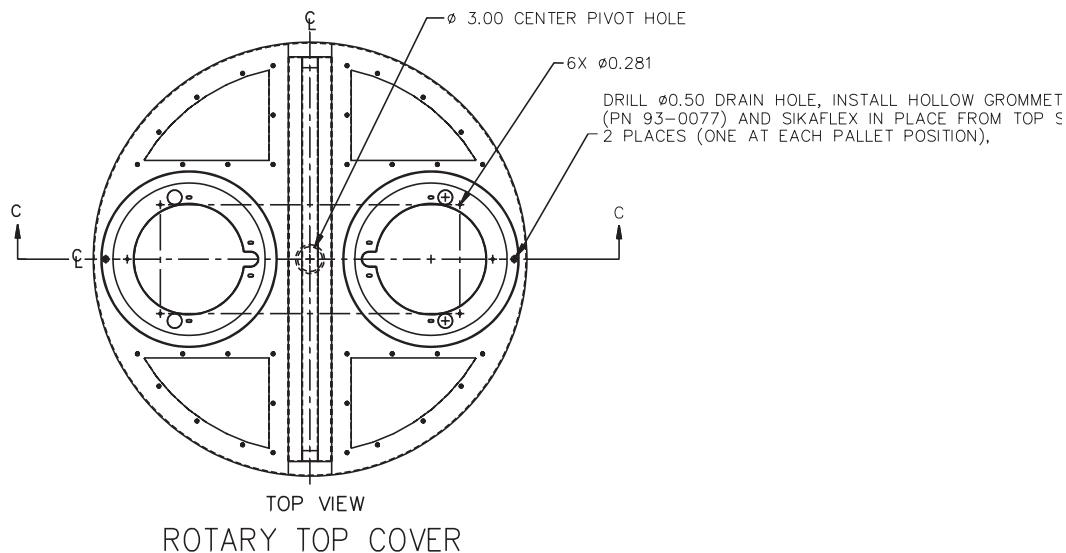

Figure 3.14-4- Rotary Cover, Top View
4. Thoroughly clean and prepare the area surrounding the 3.00" dia. center pivot hole of the Rotary Top Cover from below. Prep using alcohol or similar agent. See Figure 3.14-4.
6. Place one Ring Dam HS-1RP, P/N 93-1098 onto one of the pallet locations on the Rotary Top Cover. Place the remaining Ring Dam onto the remaining pallet location. Line up all the existing perimeter holes and slots to ensure that the Ring Dams are centered over the openings. Using the Ring Dams as a guide, mark and match drill the three 0.281 dia. holes that do not yet exist in the Rotary Top Cover, as shown in Figure 3.14-4. Use a 9/32 (0.281) diameter drill bit and ensure the Ring Dams do not shift during drilling.
8. Drill a 1/2" diameter hole in the pallet location of the Rotary Top Cover as shown in Figure 3.14-4. Squeeze a bead of Sikaflex onto the hollow metal grommet (P/N 93-0077) and press into place from above. Repeat for the remaining pallet location.